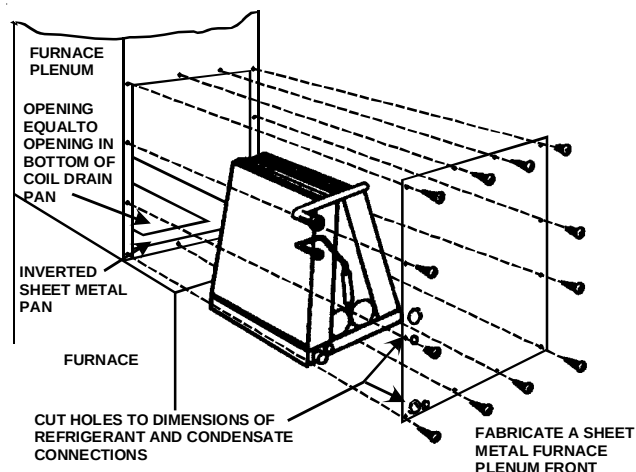

Figure 1
4. Fabricate a piece of sheet metal to enclose the front of the furnace plenum. Do not allow the screws to penetrate the coil drain pan or copper tubing. See Figure 1.